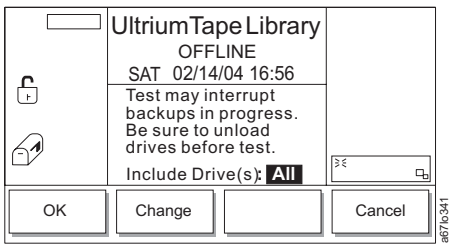

Figure 4-183. Verify Test Dialog
4. Press the button below the **Verify Test** softkey. The Verify Test Dialog displays (see Figure 4-183).